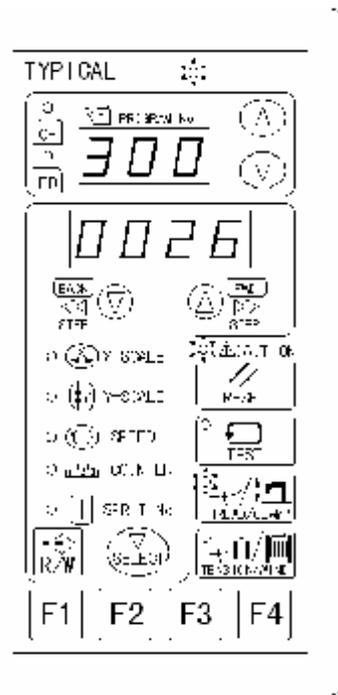

Fig. 6-21
4. Press  key, to save pattern, with operation panel as shown in Fig. 6-21. Press  or  key to select any number in the range 300~999 as name of the pattern. And then, press  key to save pattern and automatically exit drafting mode, the machine finds origin automatically with operation panel returning to the speed set-up interface.